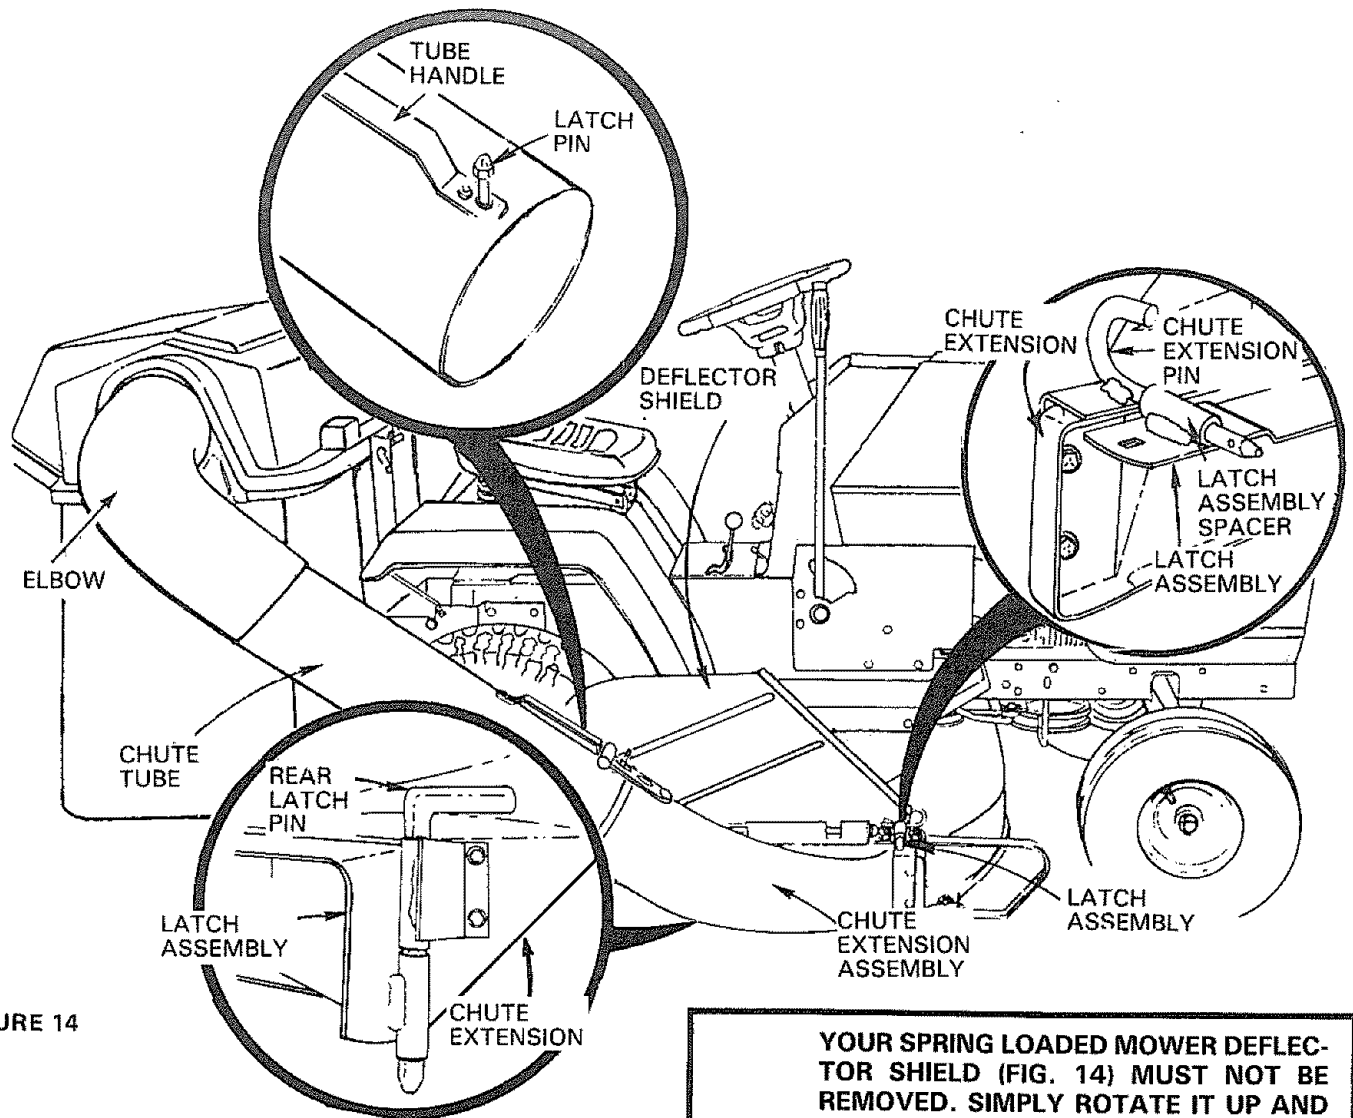

FIGURE 14
YOUR SPRING LOADED MOWER DEFLECTOR SHIELD (FIG. 14) MUST NOT BE REMOVED. SIMPLY ROTATE IT UP AND HOLD IN UP POSITION WHILE ATTACHING CHUTE EXTENSION. THE MOWER DEFLECTOR SHIELD CAN BE RELEASED TO REST AGAINST CHUTE EXTENSION. THIS WILL ASSURE DEFLECTOR SHIELD IS STILL ON MOWER IF CHUTE EXTENSION OF GRASS CATCHER ATTACHMENT IS REMOVED.
- Insert chute extension pin into latch assembly spacer (Fig. 14 - R.H. Inset).
14. Place chute tube (Fig. 14) in elbow. Place chute tube over chute extension (Fig. 14) and secure by pulling rubber latch on chute extension over latch pin (Fig. 14 - Upper Inset) on chute tube.